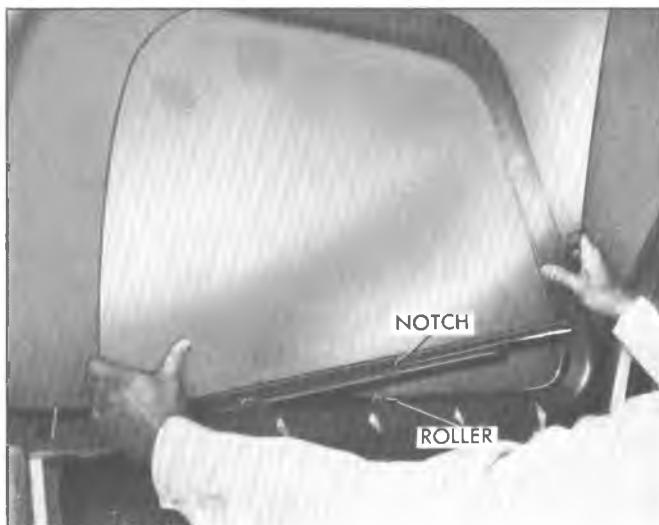

Fig. 31—Removing Door Glass
6. Push window forward and tilt front portion of window up until rear roller is disengaged. See figure 31.